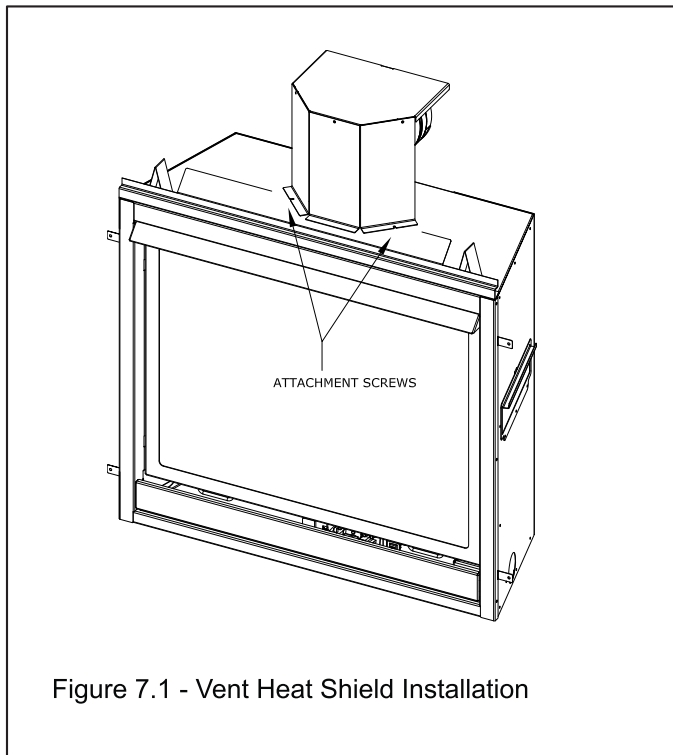

Figure 7.1 - Vent Heat Shield Installation
- The provided vent heat shield is required to be installed in all venting scenarios. See Figure 7.1, 7.2, and 7.3. The stand off assembly and heat shields are cut away in this image to show the vent heat shield better.